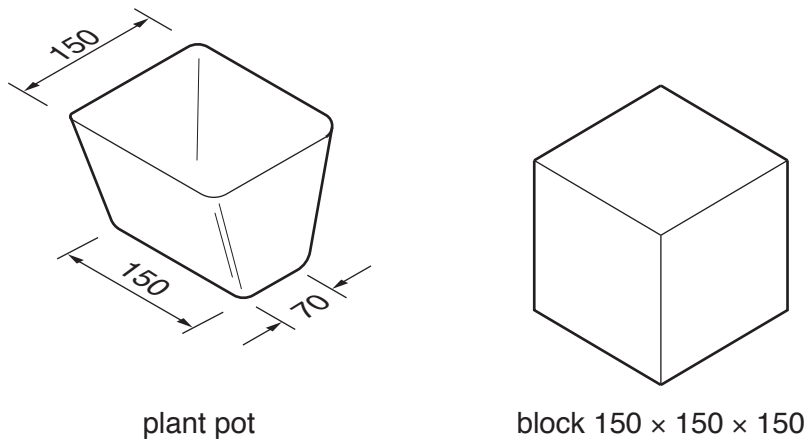

Fig. 18
- (c) Fig. 18 shows views of one plant pot and a block of wood that will be made into the former used to vacuum form the plant pots.
- (ii) Draw on Fig. 18 to show the finished former ready to be used to make the plant pots. [2]